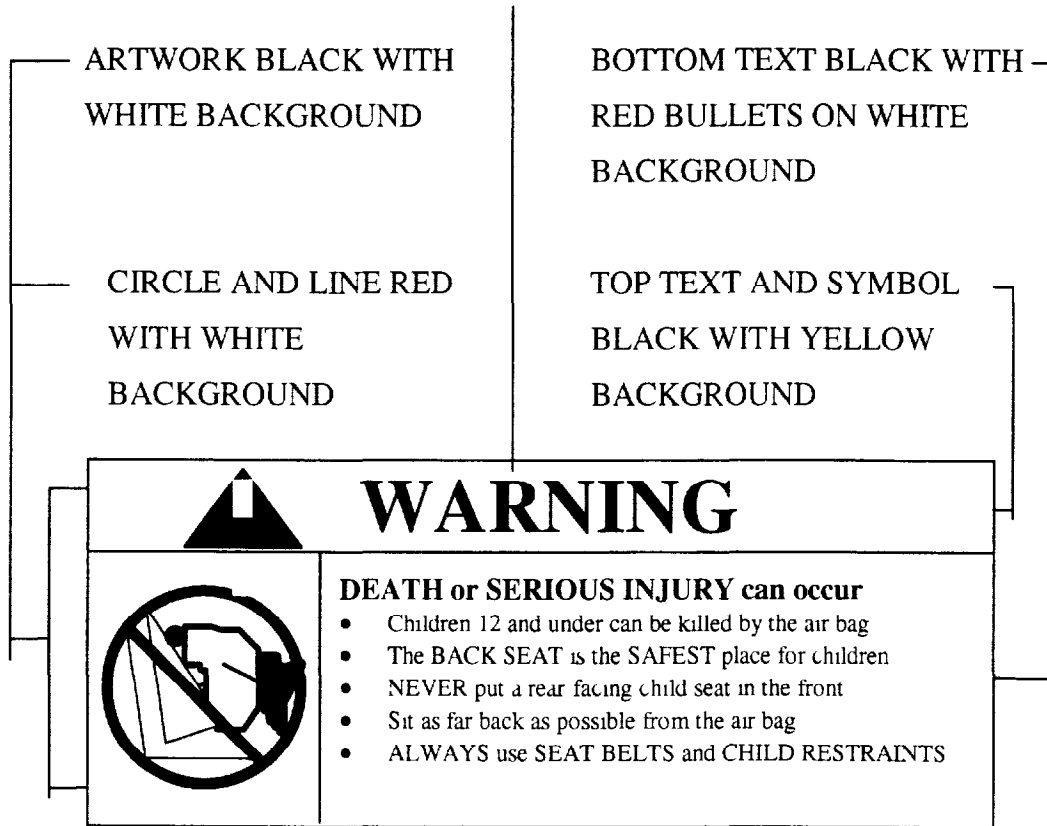

Figure 6a
4.2 Does the label conform in content (**vehicles without back seats may omit the statement: "The BACK SEAT is the SAFEST place for children."**) (S4.5.1(b)(2)(v)) to the label shown in either Figure 6a or 6b as appropriate at each front outboard seating position with an air bag? (S4.5.1(b)(2))
4.2.2.1 Does the label conform on content to the label shown in either Figure 6a or 6b as appropriate?
4.2.2.2 Does the label conform in content to the label shown in Figure 6a where the label can be modified to omit the pictogram and the message may read: